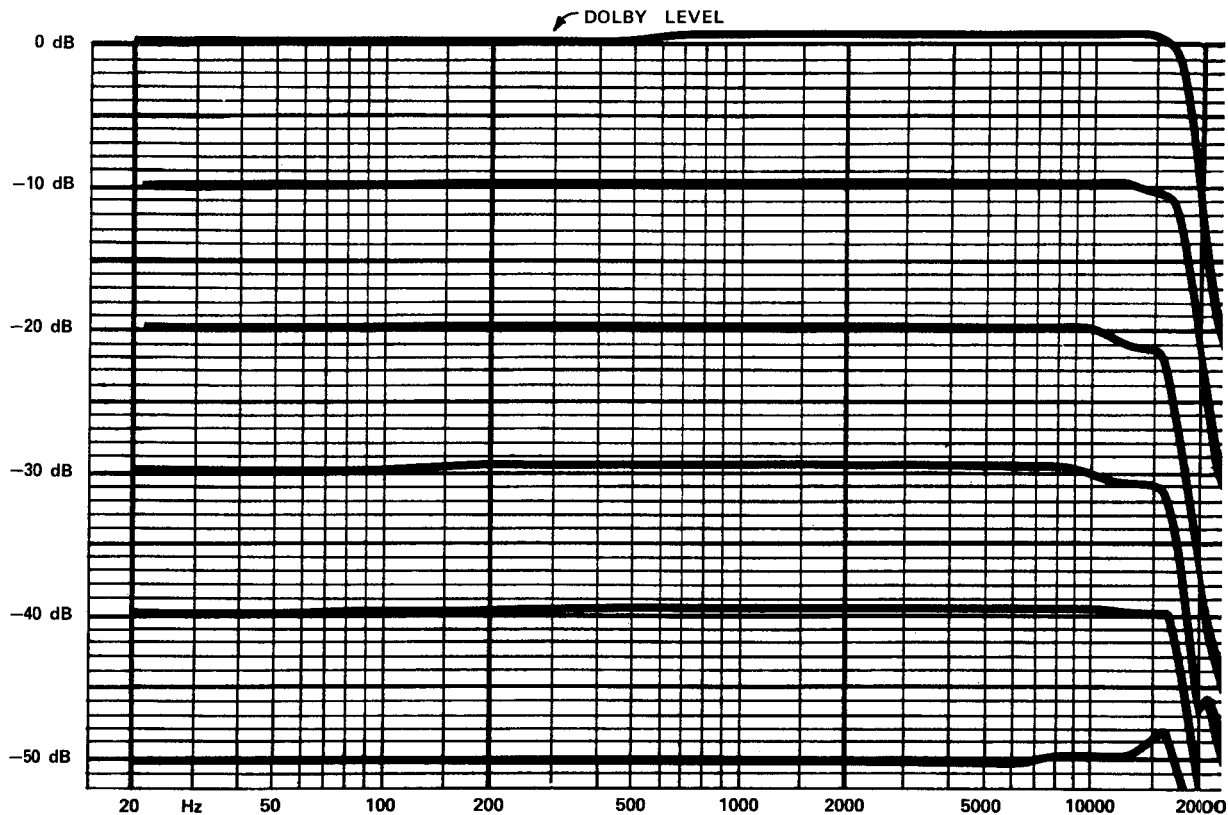

Figure 2-8 Dolby Frequency Response, Flat Mode
- (5) Measure amplitude of output signal at PREAMP OUTPUT Jack.
- (6) Measure amplitude of input signal at SCOPE OUTPUT Jack.
- (7) Calculated gain should be between 32 mV and 100 mV.
E. DOLBY RECORD MODE FREQUENCY RESPONSE (Figures 2-8 through 2-10)
- (1) When encoder functions as a flat amplifier:
- (2) When encoder functions as an encoder:
F. DOLBY PLAYBACK MODE FREQUENCY RESPONSE (Figures 2-8 through 2-10)
- (1) When decoder functions as a flat amplifier: